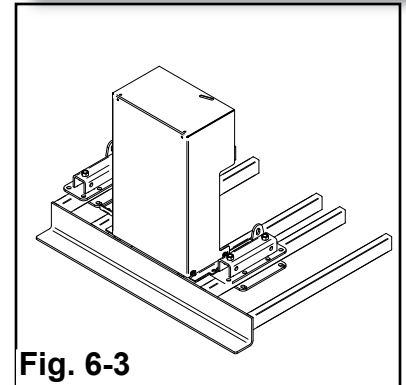

Fig. 6-3
5. Attach foot brackets for new pulley guard with 1/4" carriage bolts and finger-tighten (Fig. 6-3).